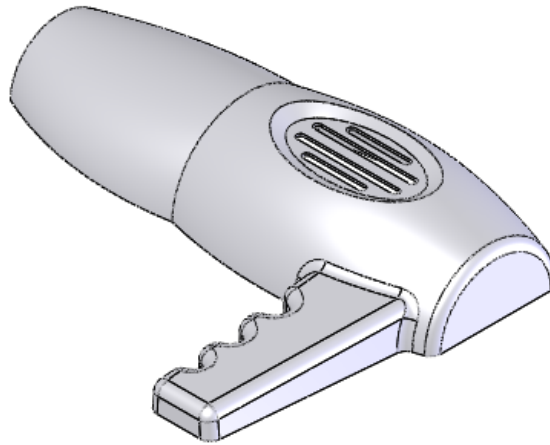
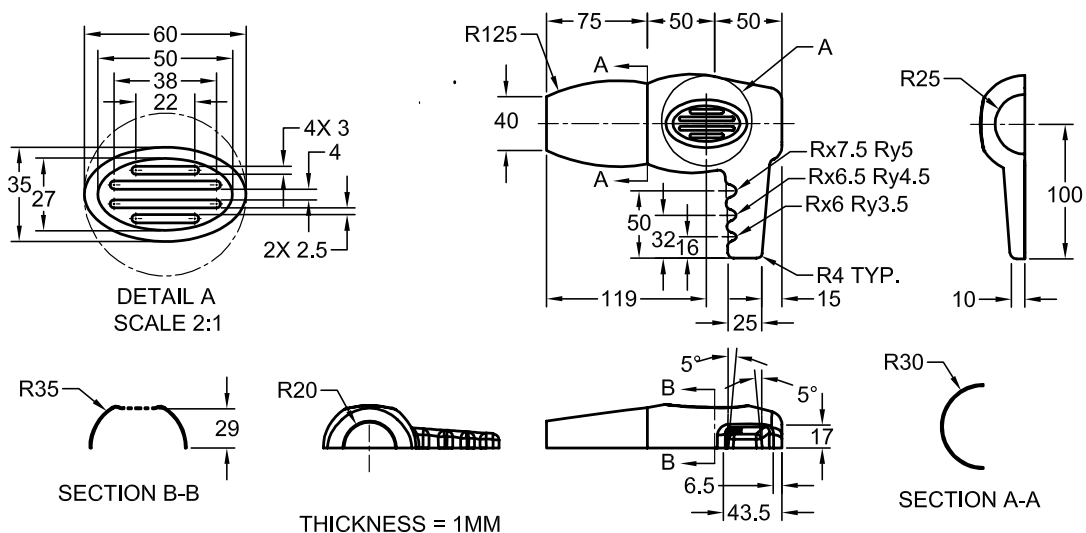
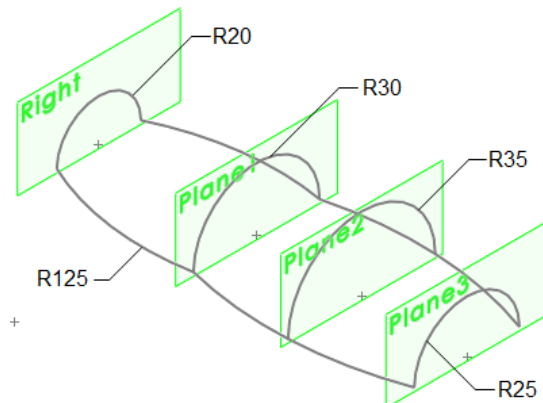

Figure 1-137 Cover of hair dryer
Figure 1-138 Views and dimensions of the model for Tutorial 2
Figure 1-139 Sections and guide curves to create a lofted surface
In this tutorial, you will create the cover of a hair dryer, as shown in Figure 1-137. First, you will create the model by using surfaces and then thicken it. The views and dimensions of the model are shown in Figure 1-138. **(Expected time: 1.5 hr)**
2. Create three planes at an offset distance from the Right plane, as shown in Figure 1-139. For the offset distance of planes, refer to Figure 1-138.
3. Create sections and guide curves to create a lofted surface, as shown in Figure 1-139. For dimensions, refer to Figure 1-138.